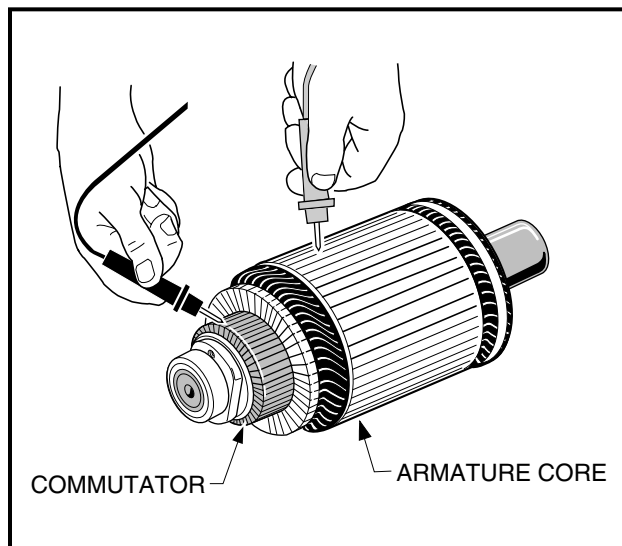

Figure 15-7 Armature Test
1. With a multimeter set to 200 Ω (ohms), place one probe on the commutator and the other on the armature core. The multimeter should indicate no continuity (**Figure 15-7, Page 15-6**). If the reading is incorrect, replace the armature.